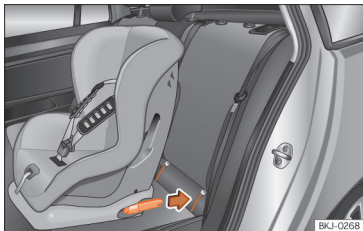

Fig. 38 Rear seats: fitting a child seat with the ISOFIX system.
- Press the child seat onto the ISOFIX or iSize retaining rings until it is heard to engage securely »» Fig. 38. If the child seat is equipped with Top Tether anchor points, secure it to the correspondent ring »» page 56. Follow the child seat manufacturer's instructions.